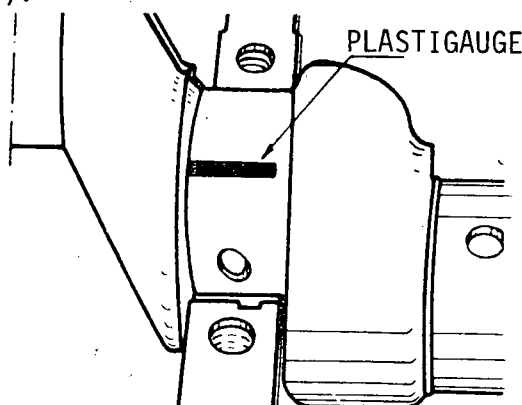

Fig. 5
d) Remove a main bearing cap and place a strip of plastigauge across the journal (fig. 5).